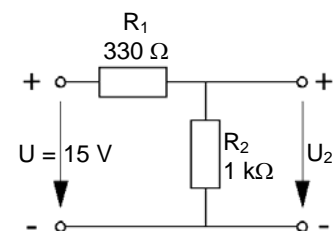

Fig. 3.10.2.1: Voltage divider
- For the circuit in Fig. 3.10.2.1, calculate the output voltage  $U_2$  and the voltage  $U_1$ .
Assemble the circuit in Fig. 3.10.2.1 on the Electronic Circuits Board. Apply a voltage of  $U = 15 \text{ V}$  to the input of the voltage divider (check the input voltage on a multimeter).